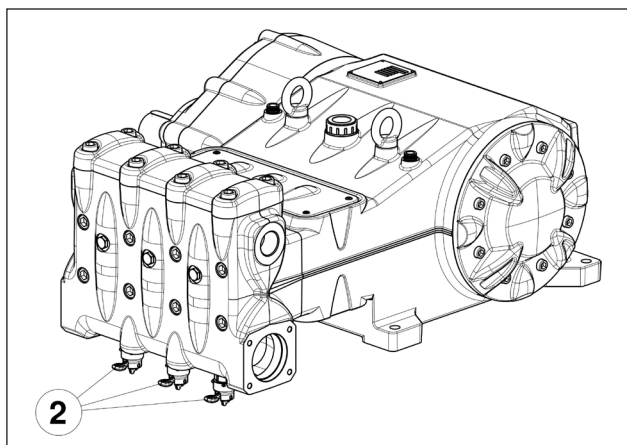

Fig. 9
In case of prolonged storage or long-term inactivity, you need to restore the proper functioning of the suction valves by opening the three valve-lift devices (see pos. ② Fig. 9). Make sure you have closed the valves before starting the pump.